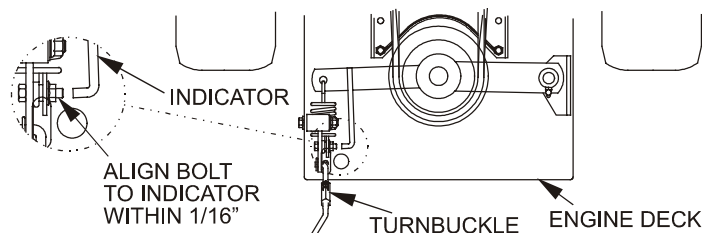

FIGURE 14
- b) With PTO engaged, adjust the linkage length by loosening the lock nut on the turnbuckle and adjusting the turnbuckle so that the bolt on the bellcrank and the indicator arm align with each other within 1/16". See Figure 14. Tighten locknut against turnbuckle.